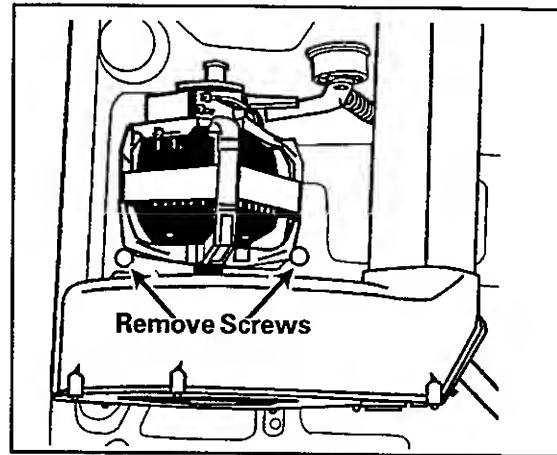

Figure 11-7
9. Remove two screws securing motor to base frame. An extension is required to reach the screws. Screws are behind the blower housing (*Figure 11-7*).